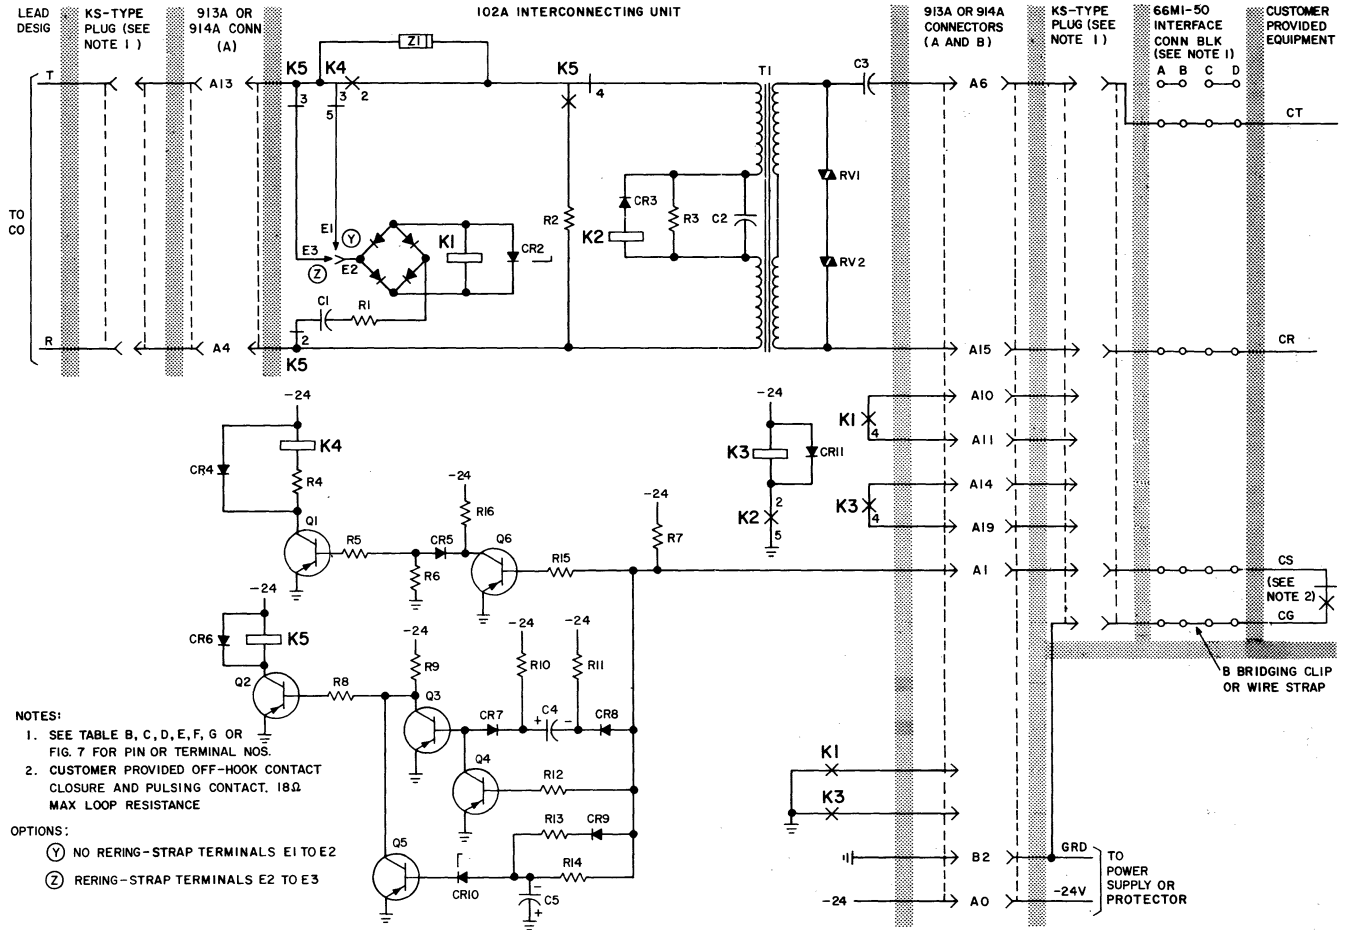

Fig. 9—Schematic—102A Interconnecting Unit
3.15 Provide proper option straps using 24-gauge *bare wire* for options W, Y, and Z from Fig. 9 or 10 for local conditions. Always use option Z for the 102A IU. The toll operator should be instructed not to reering on these PBX lines. For the 102B IU, provide option Y or Z for proper line
Note: The 102A IU (Fig. 9) operates similarly to the 102B IU but uses different relays.